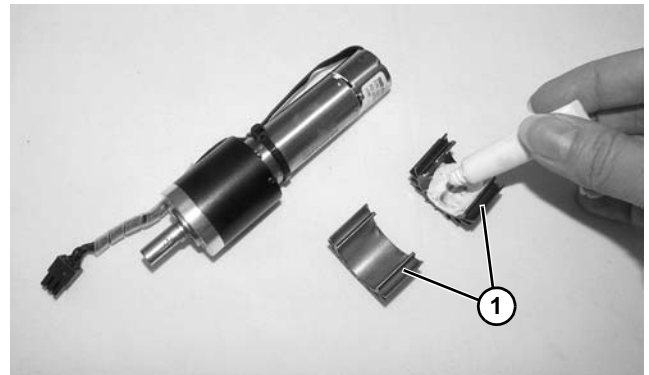

Figure 76
- Add heat sink compound to heat sinks (**Figure 76, item 1**) before reinstalling to motor.